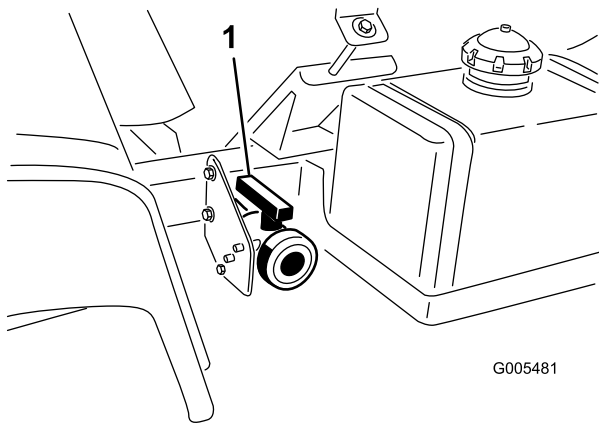

Figure 25
- Locate the tank drain valve on the left side of the machine (Figure 25). The valve is on the frame in front of the fuel tank.